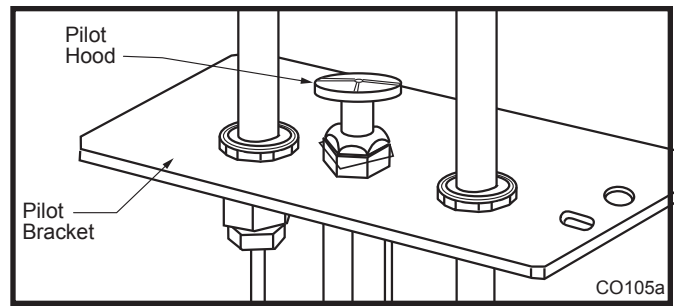

Fig. 28 Remove pilot hood.
7. Remove pilot hood by lifting up. (Fig. 28)